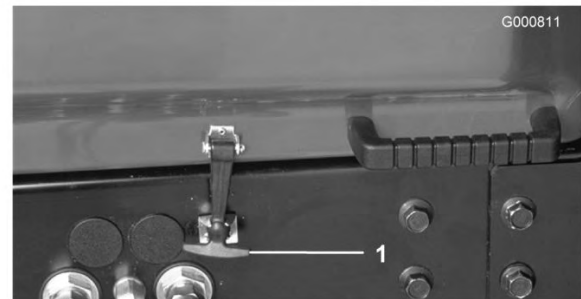

Figure 30
1. Park machine on a level surface. Release hood latch and open hood (Figure 30).